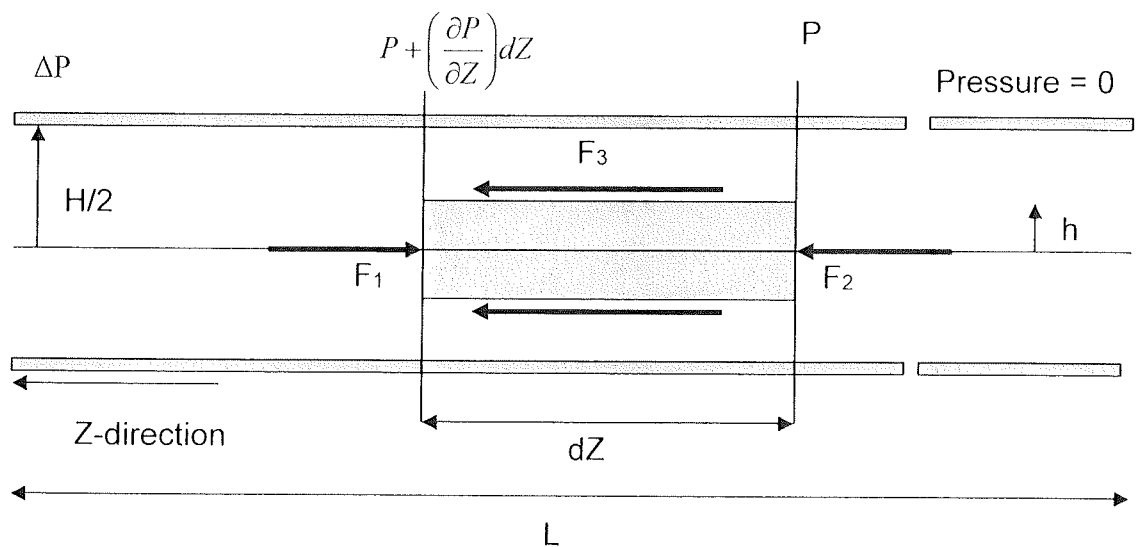

Figure 2. Balances of forces on a fluid element moving along with the flow through between 2 wide parallel plates.
- [d] Obtain the expression for shear rate at wall for a power-law fluid flow through between two (2) wide parallel plates (Figure 2). State your assumptions.
- [e] Obtain the expression for shear stress at wall for a Newtonian fluid flow through two (2) wide parallel plates (Figure 2). State your assumptions.